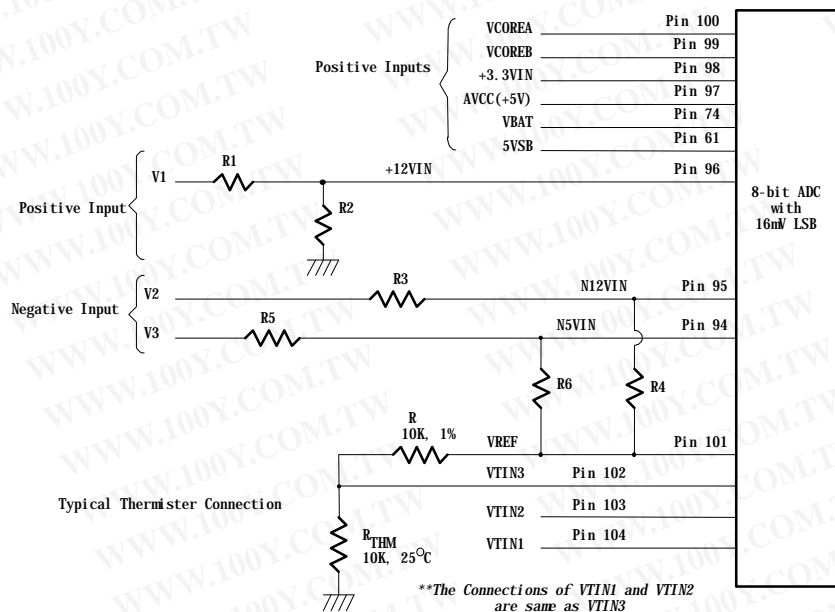

Figure. 11.2
The maximum input voltage of the analog pin is 4.096V because the 8-bit ADC has a 16mV LSB. Really, the application of the PC monitoring would most often be connected to power suppliers. The CPU V-core voltage, +3.3V, battery and 5VSB voltage can directly connected to these analog inputs. The +12V, -12V and -5V voltage inputs should be reduced a factor with external resistors so as to obtain the input range. As Figure 11.2 shows.
The negative voltage should be connected two series resistors and a positive voltage VREF (is equal to 3.6V). In the Figure 11.2, the voltage V2 and V3 are two negative voltage which they are -12V and -5V respectively. The voltage V2 is connected to two serial resistors then is connected to another terminal VREF which is positive voltage. So as that the voltage node N12VIN can be obtain a posedge voltage if the scales of the two serial resirtors are carefully selected. It is recommended from Winbond that the scale of two serial resistors are R3=232K ohms and R4=56K ohm. The input voltage of node N12VIN can be calculated by following equation.
The W83627HF can connect three thermistors to measure three different environment temperature. The specification of thermistor should be considered to (1) β value is 3435K, (2) resistor value is 10K ohms at 25°C. In the Figure 11.2, the thermistor is connected by a serial resistor with 10K Ohms, then connect to VREF (Pin 101).